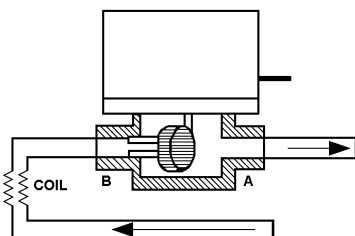
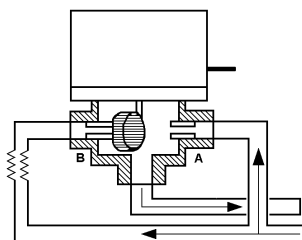
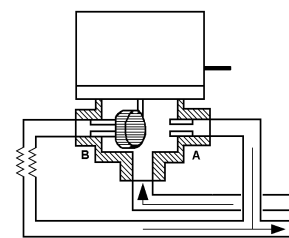

Fig.1 : 2-Way Normally Closed/Open Piping
Fig.2 : 3-Way Valve in Mixing Configuration
Fig.3 : 3-Way Valve Diverting Configuration
7. Observe direction of flow, refer to Fig.1, Fig.2 and Fig.3.
Check that the valve has been correctly installed in the pipework with regard to the direction of water flow (see Fig.1, Fig.2 and Fig.3) and the flow direction arrows on the valve body.